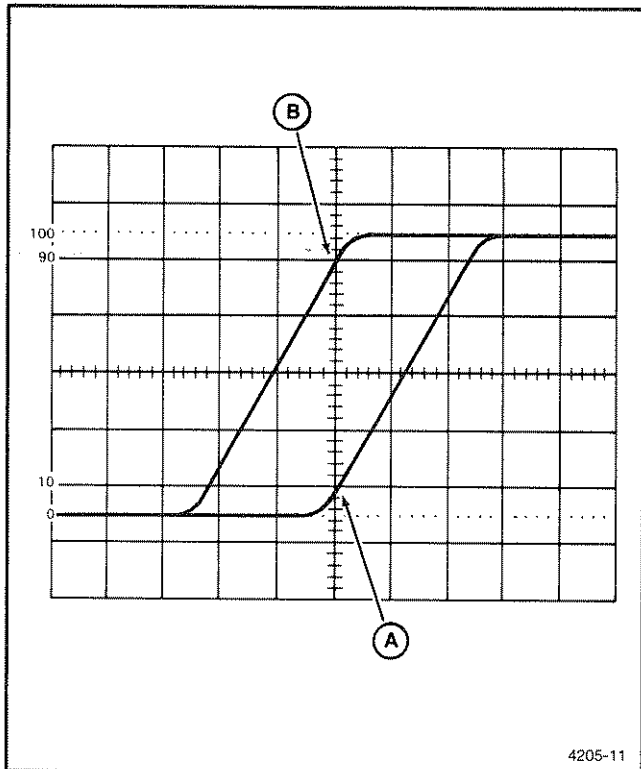

Figure 2-18. Rise time.
10. Adjust the B DELAY TIME POSITION control until the displayed waveform intersects the center vertical graticule line at the 10% point (see Figure 2-18, Point A).
11. Adjust the Δ TIME POSITION control so that as the waveform splits into two, the left most one (corresponding to the longer of the two delay times) intersects the center vertical graticule line at the 90% point (see Figure 2-18, Point B).